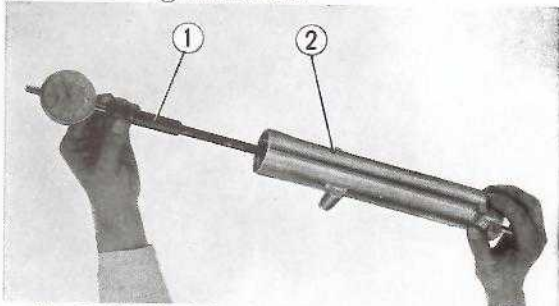

Fig. 11-18 ① Cylinder gauge ② Bottom case
4. Measure the inner diameter of the front fork bottom case. Use a cylinder gauge to perform this check and if it is found to be over than **1.562 in (39.68 mm)**, the front fork bottom case should be replaced. (Fig. 11-18)